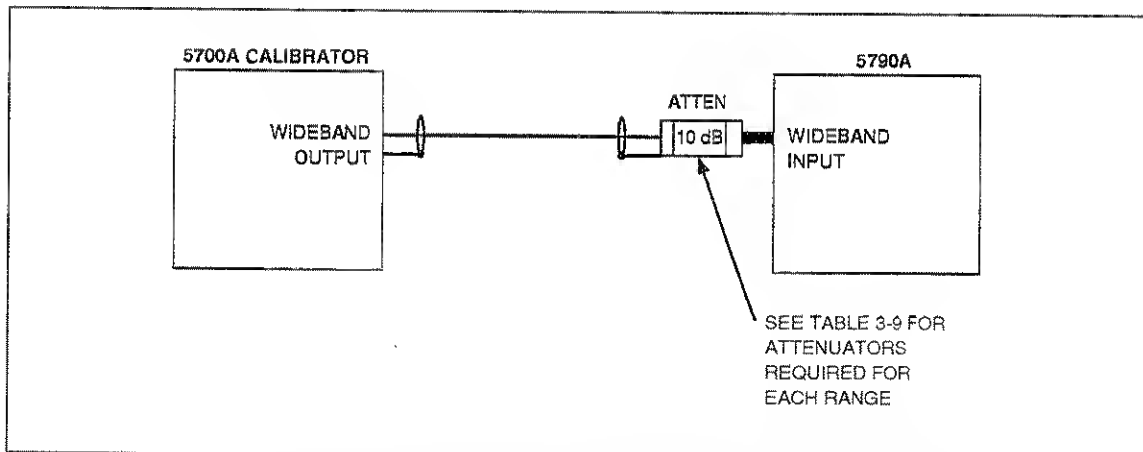

Figure 3-13. WIDEBAND Input Flatness Calibration Test Setup
1. Connect the equipment as shown in Figure 3-13.